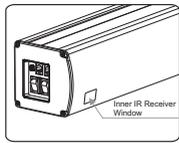

Figure 26
2. When there's nothing to keep out of the IR window, you can use the controller to control up/pause/down of the screen (Figure 26).